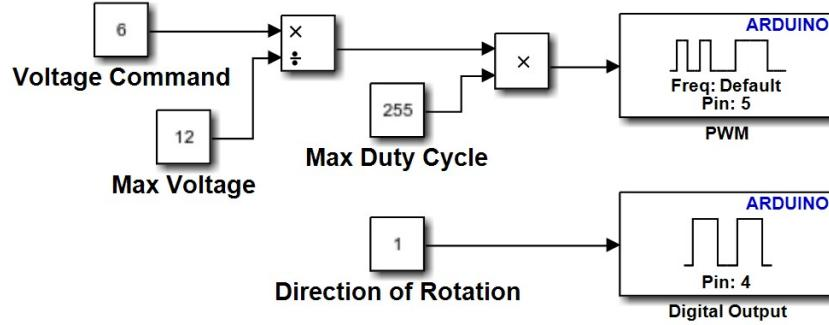

Figure 11: Simulink model for sending voltage commands to the motor via DRI0009.
4. For control applications, it is useful to be able to directly send a desired effective voltage command, between 0V and 12V, to the motor, as opposed to sending a duty cycle command between 0 and 255. To do that, we will use *Commonly Used Blocks* from the Simulink library browser to create the Simulink model in Figure 11